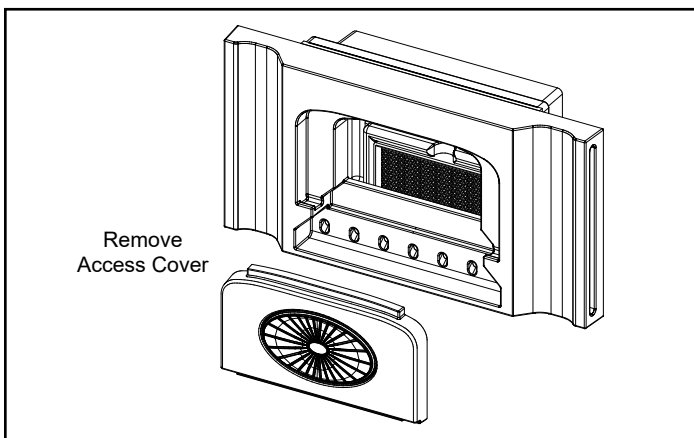

Figure 5.9 - Remove access cover.
2. Remove the access cover by pulling it straight up and out, Figure 5.9.